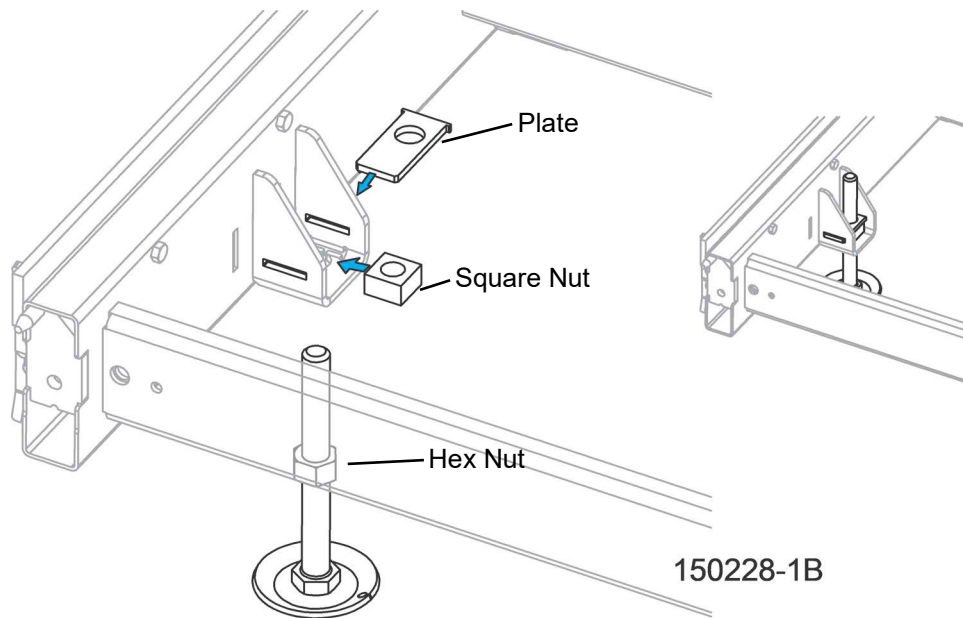

FIG. 3-2
4. Thread each leg through the bracket, the square nut, and the plate. (See FIG. 3-2.)